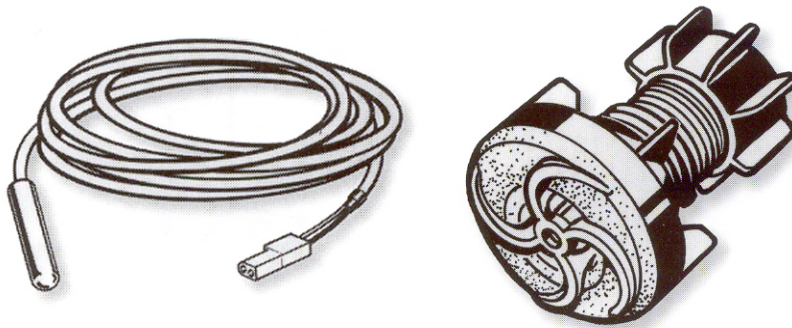

Figure 8. Temperature sensor and wall fitting
1. Locate the temperature sensor wall fitting (Figure 8) on the spa shell.